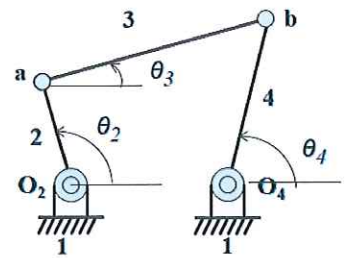

Fig.1. Four-bar linkage
1. Figure 1 show a four-bar linkage. For the mechanism, if $r_1=250\text{cm}$, $r_2=100\text{cm}$, $r_3=250\text{cm}$, and $r_4=150\text{cm}$, (a) write down the vector loop equation, (b) if $\theta_2 = 120^\circ$, please find the values of θ_3 , θ_4 , and transmission angle μ . (20%)